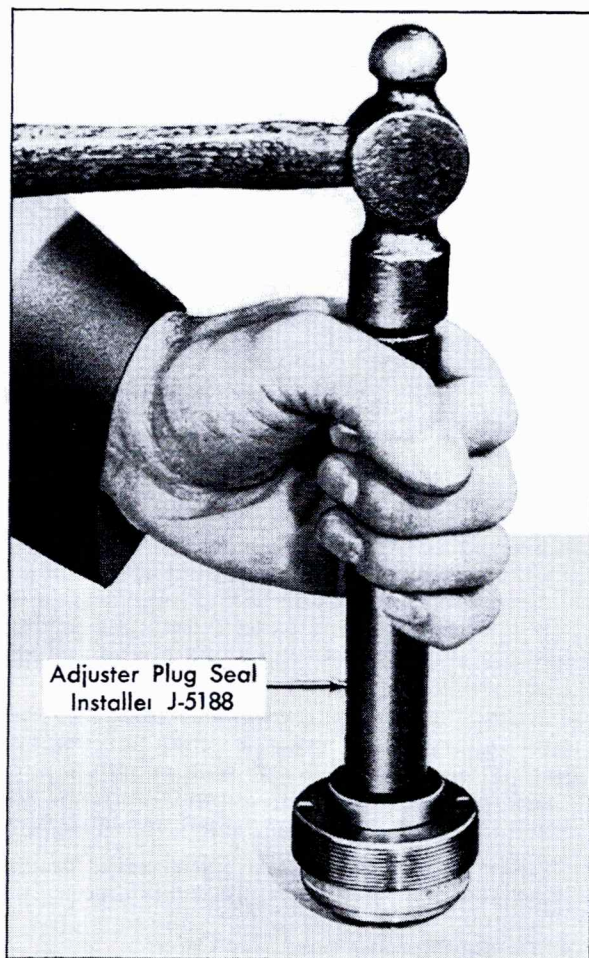

Fig. 9-29 Installing Oil Seal
2. Lubricate new stub shaft oil seal with power steering fluid and, using Adapter Plug Seal Installer, J-5188, Fig. 9-29, install seal far enough to provide clearance for dust seal and retaining ring.